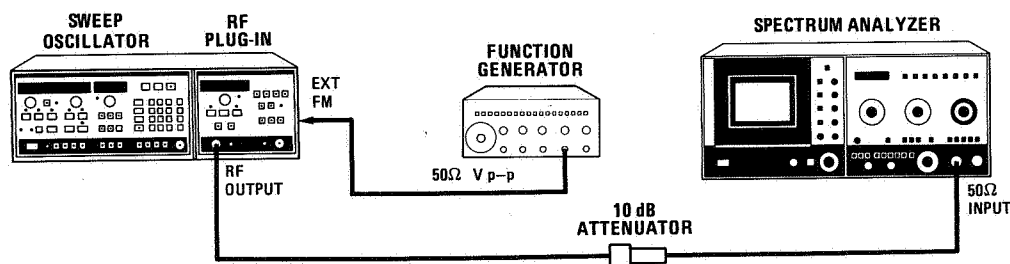

Figure 4-15. 100 Hz External Frequency Modulation Test Setup
1. Ensure that modulation sensitivity is set to  $-20$  MHz/volt and modulation coupling to DC. Refer to section III of the plug-in manual for information on FM switch position. Connect equipment as shown in Figure 4-15.